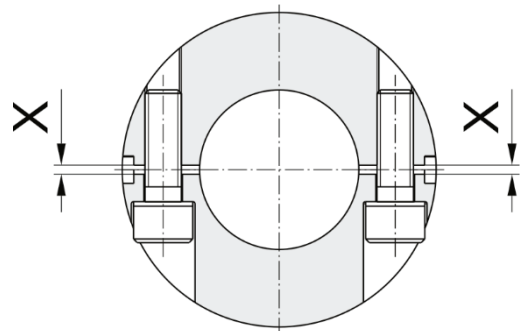

Fig. 3
- d) Tighten the cap screws (1.4.1) alternately and in several tightening sequences to the tightening torque stated in Table 1. Please make sure that the gap "X" (Fig. 3) has the same size on both hub sides. If necessary, re-adjust it.